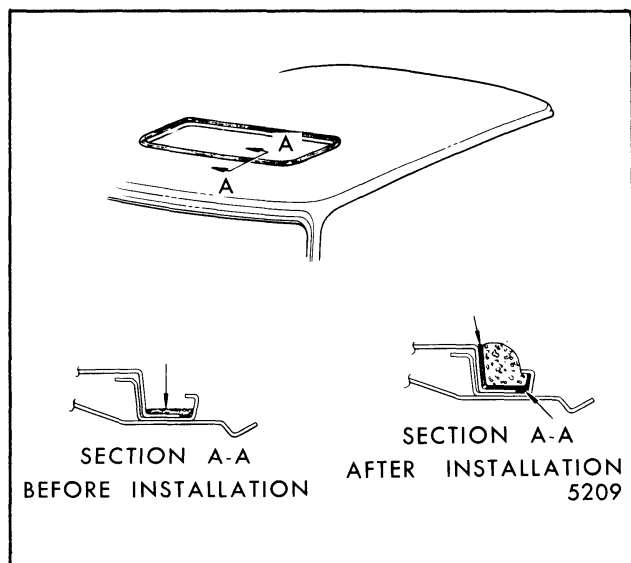

Fig. 8-13-Vista Vent Weatherstrip Installation
2. Apply a coat of black adhesive to weatherstrip gutter. Be sure lap joints in gutter are sealed with adhesive (Fig. 8-13).
4. Using a nozzle type application, apply a bead of black weatherstrip adhesive between outboard periphery of weatherstrip and body opening (Fig. 8-13).